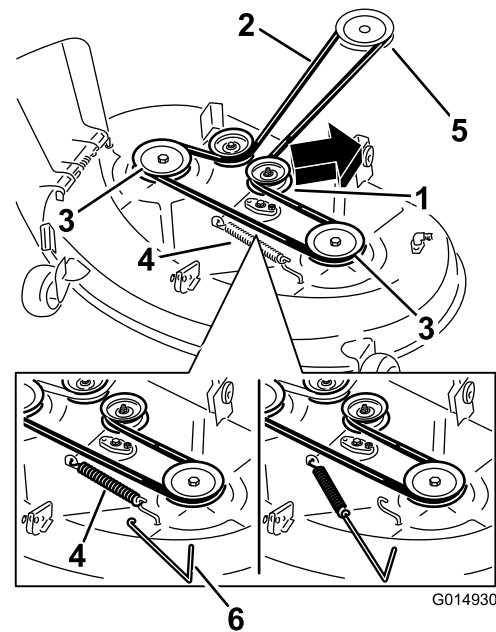

Figure 64
4. Using a spring-removal tool, remove the idler spring from the deck hook to remove tension on the idler pulley, and roll the belt off of the pulleys (Figure 64).
5. Route the new belt around the engine pulley and mower pulleys (Figure 64).
6. Using a spring-removal tool, install the idler spring over the deck hook, and place tension on the idler pulley and mower belt (Figure 64).